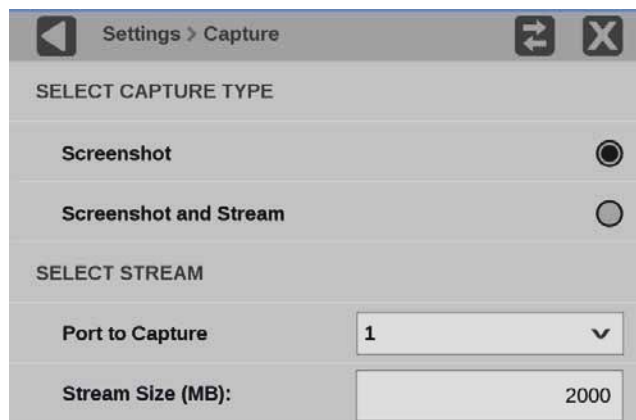

Figure 93: Select Screenshot
2. Select **Screenshot** under SELECT CAPTURE TYPE. (See Figure 93.)